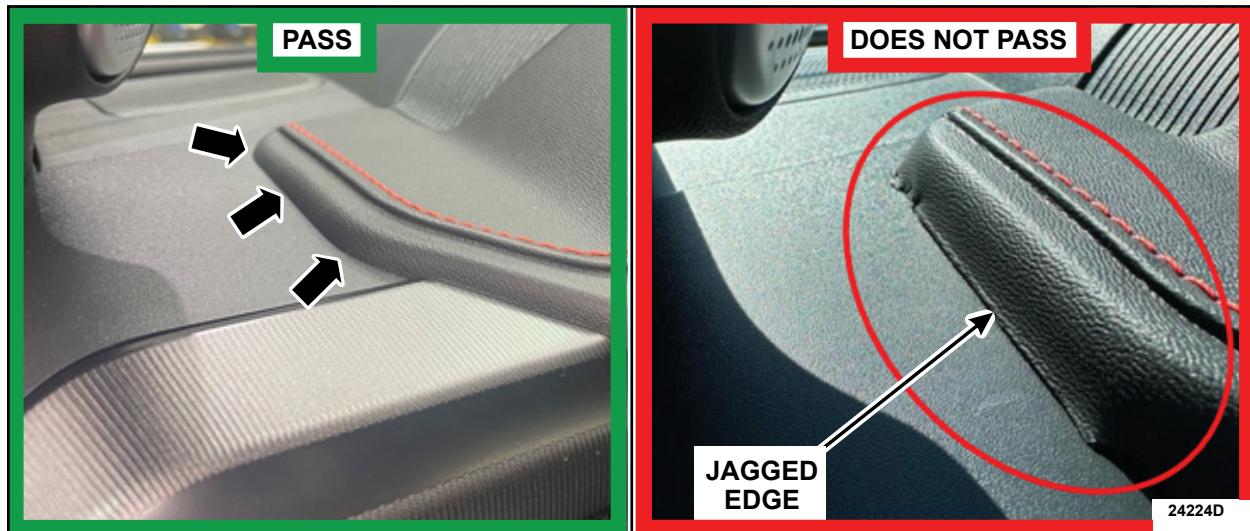

FIGURE 4
9. Inspect the Instrument Panel (IP) for any loose damaged or missing trim.
10. Inspect the Left Hand (LH) IP topper for jagged edges. See Figure 4.